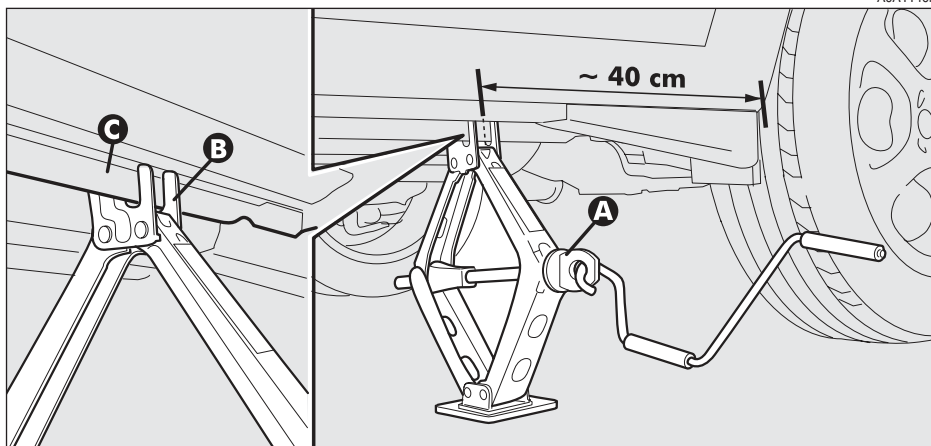

fig. 6
— Work the jack crank (A-fig. 6), to extend it until the groove (B) on the upper part of jack is correctly inserted on the lower profile of the body (C) approx. 40 cm from the profile of the wheelhouse.